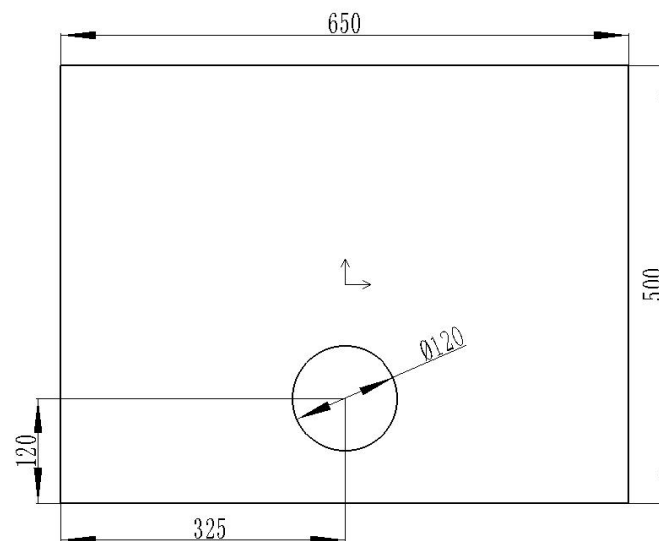

Figure 5.1.1(a)
5.1.1 Remove the equipment from the packing box and remove the bag, desiccant, and transportation positioning. Place on a stable workbench (workbench requirements as shown in Figure 5.1.1).